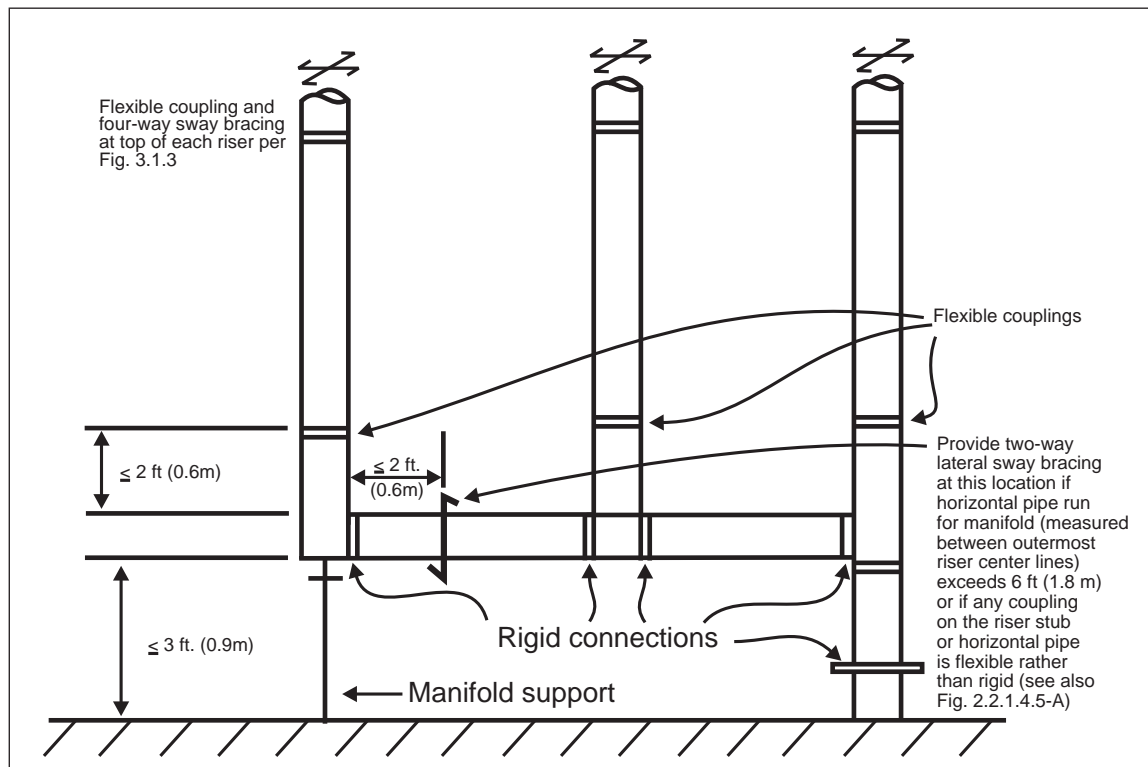

Fig. 2.2.1.1.2. Arrangement of manifolded risers
2.2.1.1.2.4 For risers fed from horizontal manifold piping, provide a two-way lateral sway brace within 2 ft (0.6 m) of the end of any horizontal manifold piping longer than 6 ft (1.8 m), or when any flexible couplings are used on either the horizontal manifold piping or on the riser stub between the floor and the connection to the horizontal manifold piping. See Fig. 2.2.1.1.2.